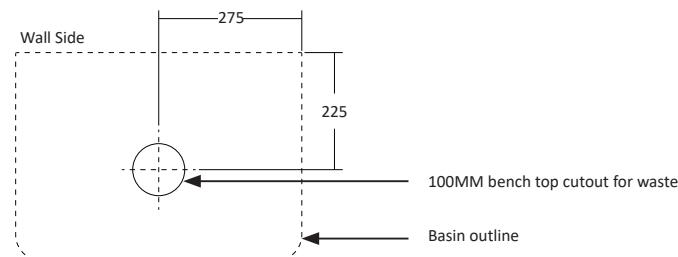

Figure 3.
2. Apply a neat generous bead of adhesive silicone sealant around the base flat of basin. See figure 3.